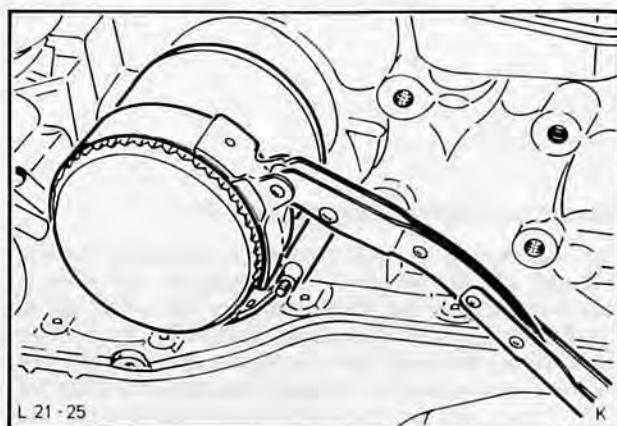

Fig. 76. Remove oil filter
2. Drain engine oil and remove oil filter, Fig. 76. Remove dipstick.